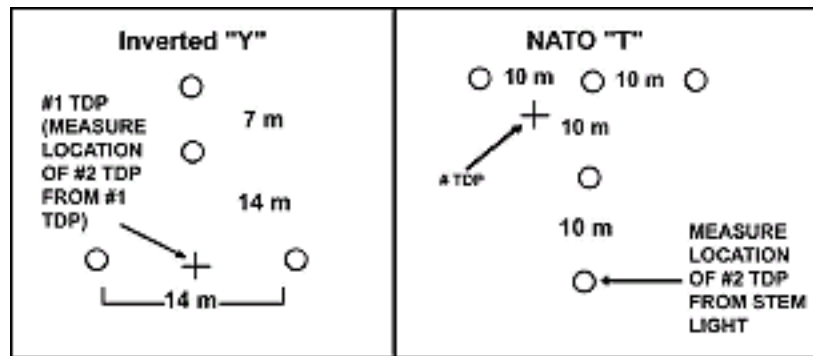

Figure 4-14. Placement of the Inverted "Y" or NATO "T" at the Number One Touchdown Point.
b. Regardless of the type lighting device used, pathfinders identify the touchdown point with at least two lights. At night, they can designate different helicopter sites with lights of different colors. They may also use different colors to separate flights within a larger formation. A lighted (inverted) "Y" indicates the landing point of the lead helicopter (Figure 4-14).